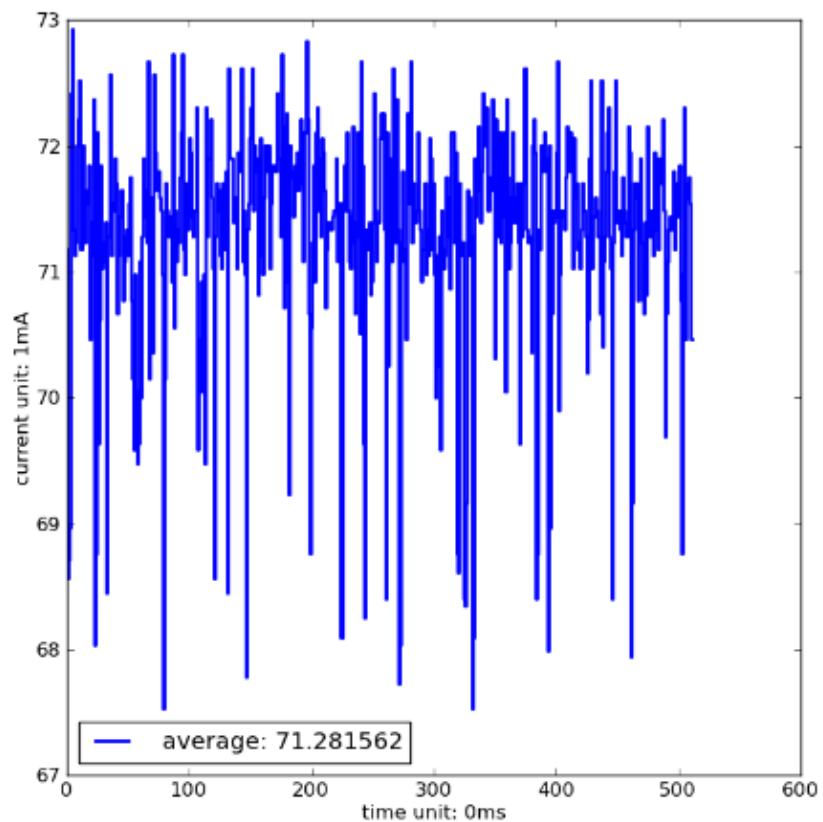

Figure 4-18. Current Measurement of Packet Receive Operation Power Consumption Test #3
- Execute the Python script to test the power consumption when ESP-Launcher receives 1024 bytes long packets in an environment of IEEE 802.11n standard and -65 dB transmit power. The average power consumption is 71.28 mA, as Figure 4-18 shows: